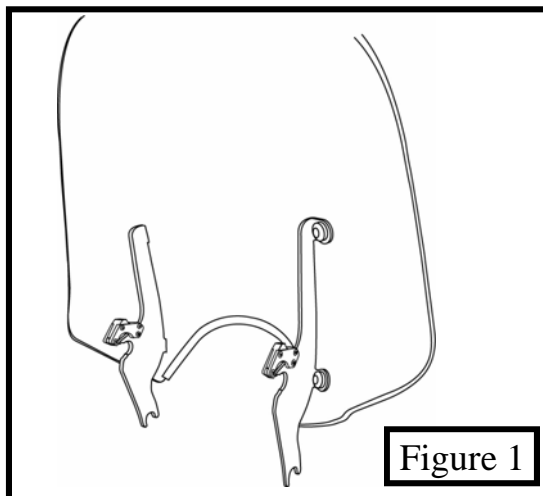

Figure 1
2. Install the windshield mounting plates onto the windshield, using the bolts that are pre-assembled on the mounting plates. The Santoprene grommets should be inserted through the holes in the windshield so that the flat round part of the grommet lies flat on each side of the plastic. *Tabs point out away from the headlight.* (see figure 1).